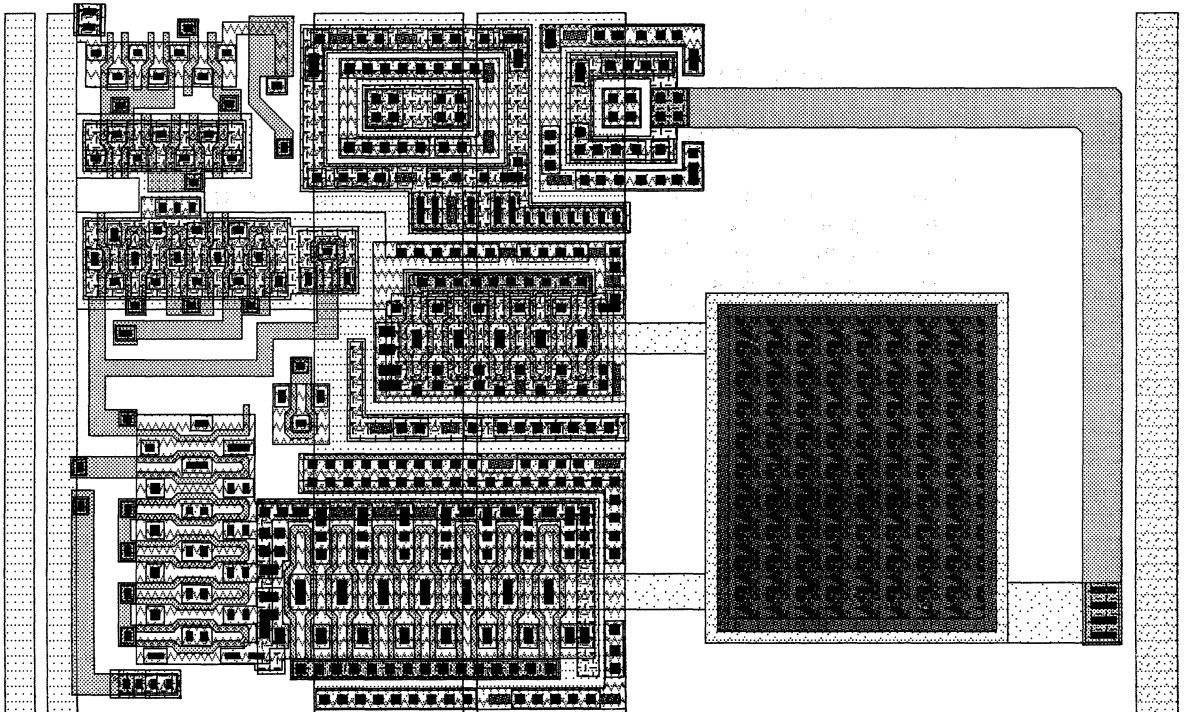

Figure 8-2. Protection Network Layout
- Guard rings of VDD and VSS around large diffusion areas. These act as dummy collectors, or lateral blocking devices, to catch injected currents and reduce the gain (beta) of parasitic transistors. Figure 8-2 shows the layout of this protection network.